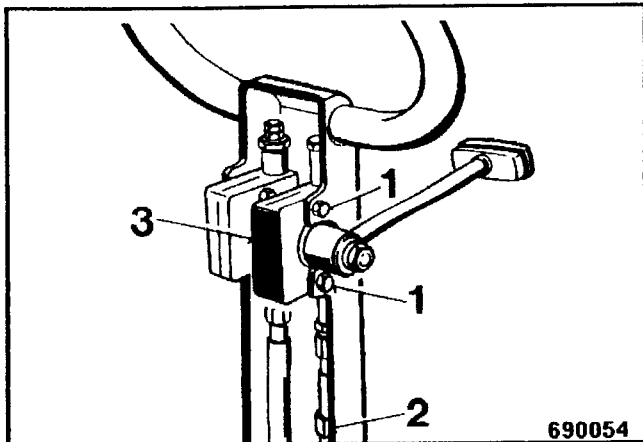

Fig. 1
- Loosen the clamp 2 (Fig. 1).
- Unscrew the two mounting screws (1) and take the travel cable (3) off the steering rod.